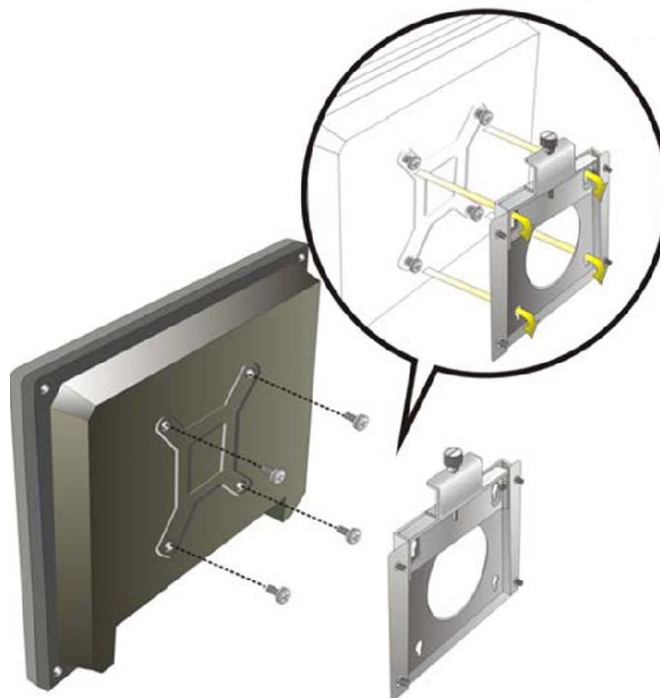

Figure 3 – Chassis Support Screws
Step 6: Insert the four monitor mounting screws provided in the wall mounting kit into the four screw holes on the rear panel of the DSM800 and tighten until the screw shank is secured against the rear panel (Figure 3).
Step 8: Carefully insert the screws through the holes and gently pull the monitor downwards until the monitor rests securely in the slotted holes (Figure 3). Ensure that all four of the mounting screws fit snugly into their respective slotted holes.